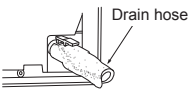

Fig. 4
- 5) Insert the drain hose fully into the drain pan at the rear right of the indoor unit. (Fig. 4)
- 6) Insert the drain hose into wall hole sleeve (C), and hook the upper part of indoor unit on installation plate (1). Then, move the indoor unit completely to the left in order to make placing the piping in the back space of the unit easier.